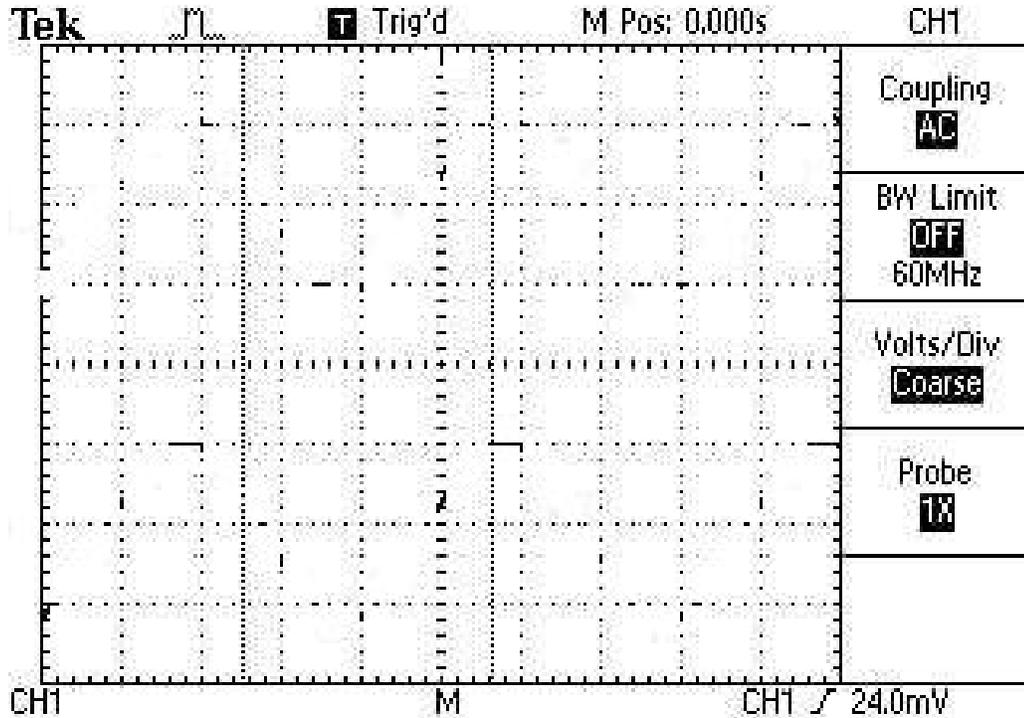

Figure 2
- Using Figure 2 sketch the picture on the LCD of the capacitor charging and discharging.
- Using the oscilloscope's cursor function to measure voltage and time, and your sketch in Figure 2, answer the following questions.